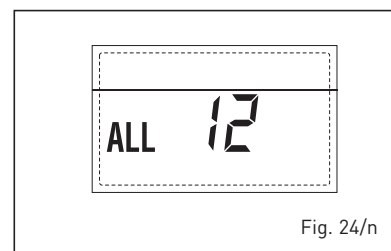

Fig. 24/n
– **SAFETY THERMOSTAT INTERVENTION FIRST MIXED ZONE "ALL 20" (fig. 24/p)**